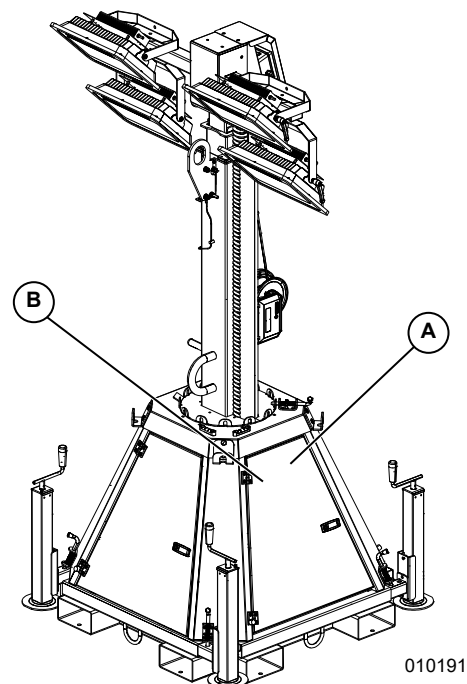

Figure 2-1. Serial Number Location
Refer to Figure 2-1 to locate serial number (A) and nameplate (B). Record the information from these tags so it is available if the tags are lost or damaged. When ordering parts or requesting assistance, you may be asked to provide this information.